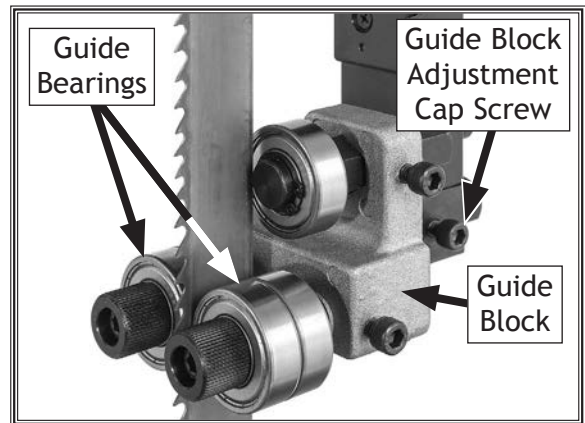
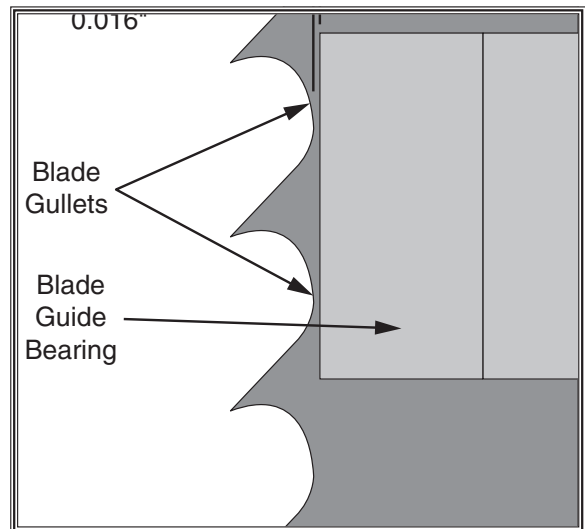

Figure 53. Upper guide bearing components (guide post cover removed for clarity).
Figure 54. Blade guide bearing positioned just behind blade gullets.
2. Loosen guide block adjustment cap screw shown in **Figure 53**, then position guide bearings just behind blade gullets, as illustrated in **Figure 54**. Retighten cap screw to secure setting.